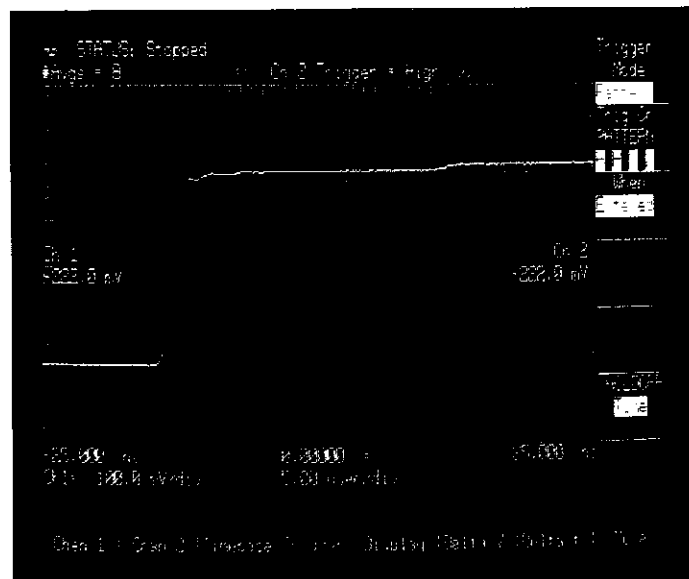
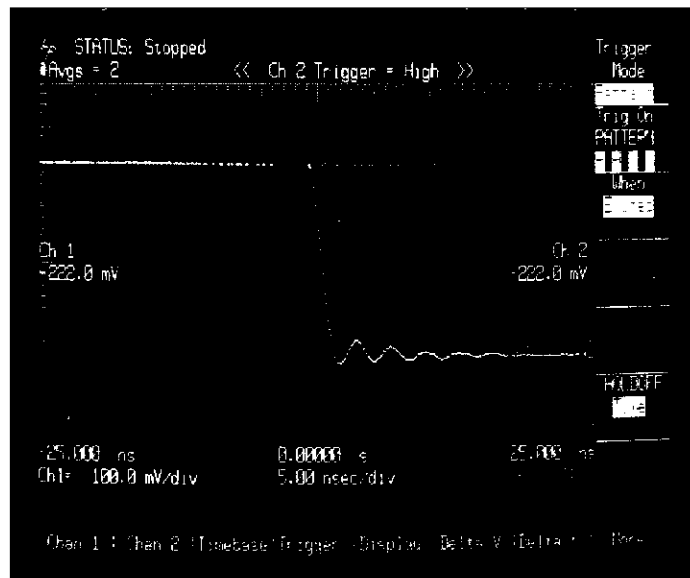

Figure 7-16. Pattern When Entered "HHXX"
Figure 7-17. Pattern When Exited
*In figures 7-16 and 7-17, the signal path for chan 2 is approximately 2 meters longer than that of the signal path for chan 1. This provides the time differential between the two signals*
This menu allows triggering when entering or exiting a defined logic pattern. If the When Entered function is selected, the unit will trigger on the last pulse edge that makes the pattern true (see figure 7-16). If the When Exited function is selected, the unit will trigger on the first pulse edge that makes the pattern false (see figure 7-17)